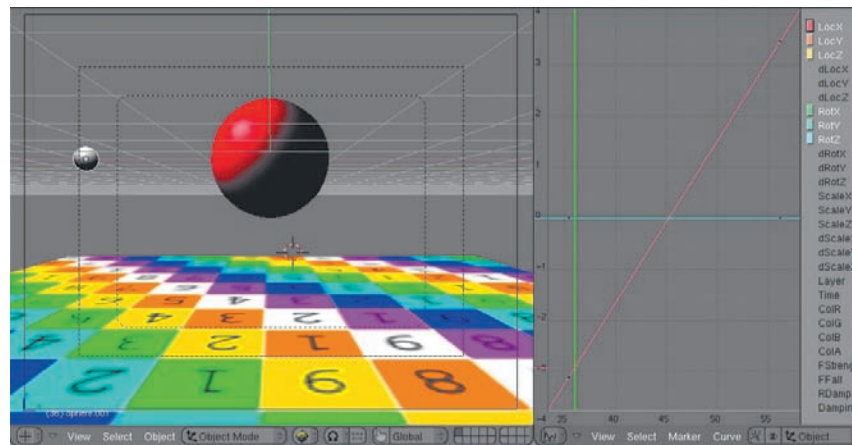

Figure 2.50 Two spheres
1. First add two Icospheres as shown in Figure 2.50. The materials, textures, and background are not important to this effect, so you can set them up however you like. Scale down the second sphere so that the spheres' relative sizes are approximately as shown in the image. The smaller sphere should be placed to the left of the larger sphere, directly along the X axis. Animate the smaller sphere as shown in the Ipo Editor in the figure, so that the small sphere flies through the center of the large sphere. The small sphere should take about 2 seconds to pass from one side of the frame to the other.